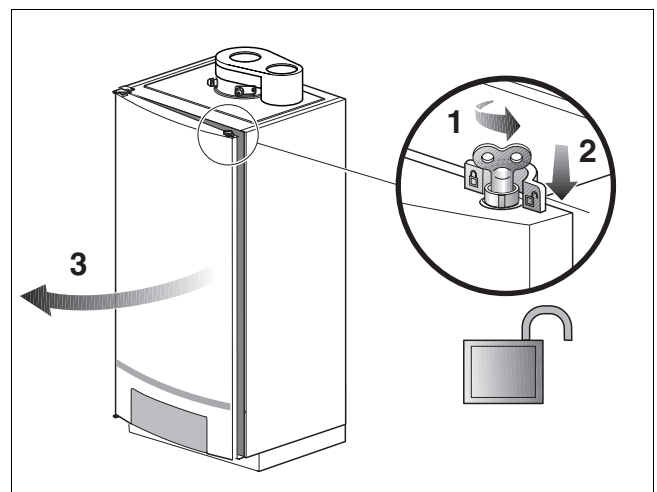

fig. 2 Opening the boiler door
- Open the boiler door by turning the vent key through ¼ rotation (fig. 2).